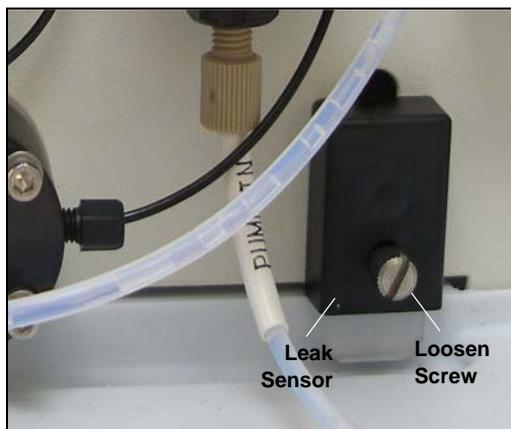

Figure 5-21. Leak Sensor
- Loosen the screw on the front of the leak sensor (see Figure 5-21). **Note:** The screw remains attached to the sensor.